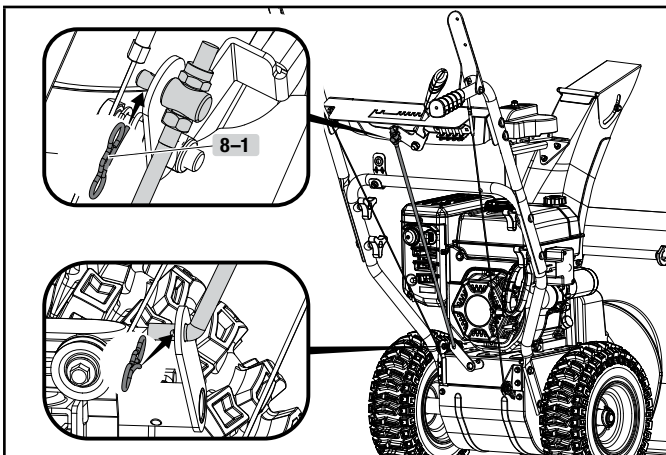

Figure 8
2. Connect the connecting lever and speed adjusting handle with clip (Fig. 8).